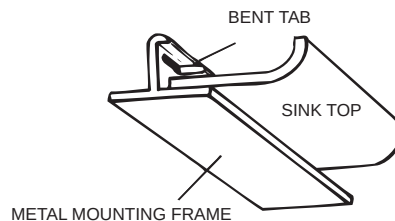

Figure 4
10. Put the metal mounting frame around the sink. Bend the tabs in the frame toward the sink, so that the frame is held to the sink edges all the way around. See Figure 4.